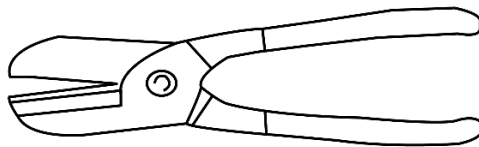

Fig. 2
- 2** Figure 2 below shows a tool.